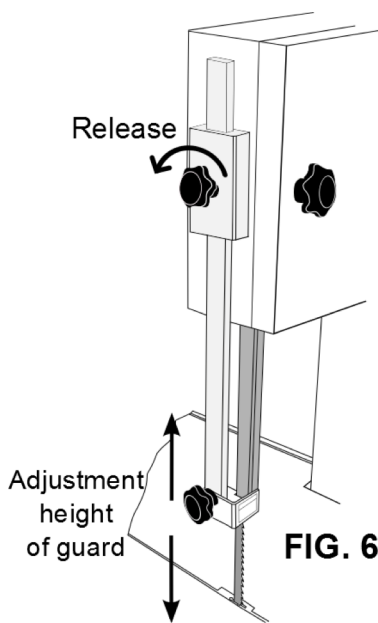

FIG. 6a BAND SAW GUARD
For adjusting the band saw guard, turn counterclockwise the superior handle (24) (Fig 6a) for releasing and adjusting the height enough to cut meat. Turn clockwise the superior handle to fix again the band guard saw.